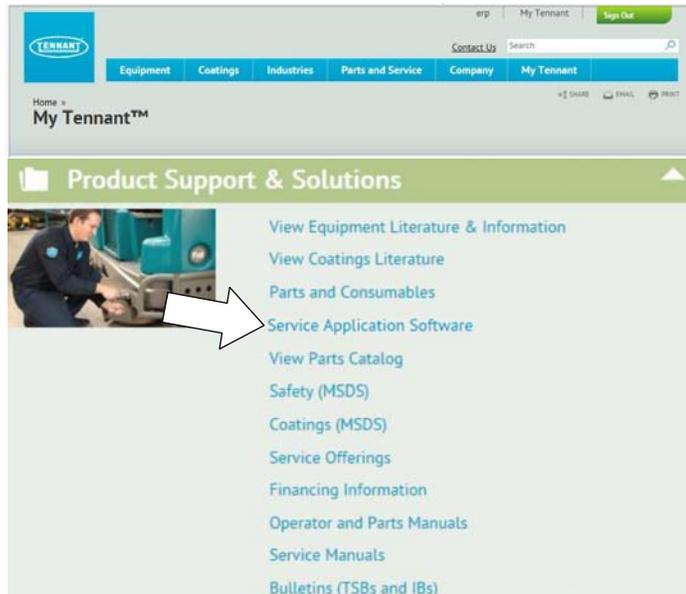

Fig. 27
3. Once logged on to the “My Tennant™” website, click on the “Service Application Software” link under the “Product Support & Solution” section as shown below (Figure 27).